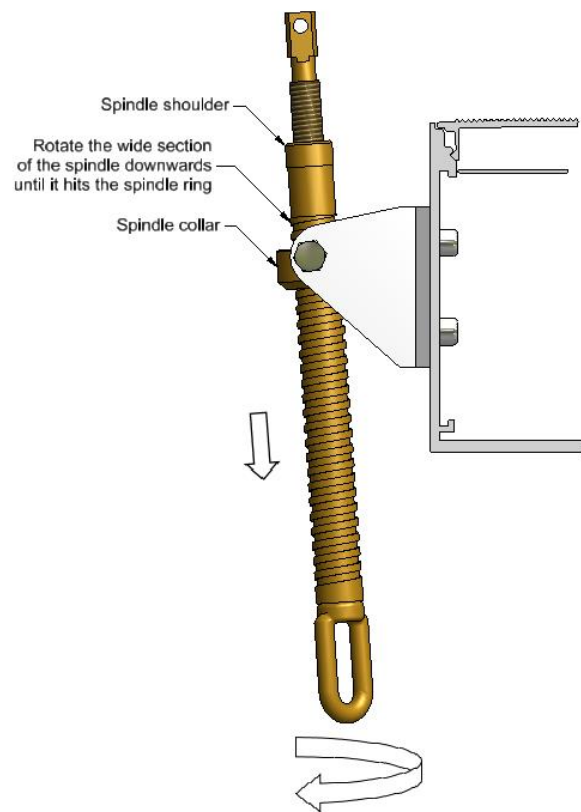

Fig. 14e – Wind the spindle downwards
- If not already done, rotate the wide part of the spindle downwards until it hits the spindle collar (fig. 14e)